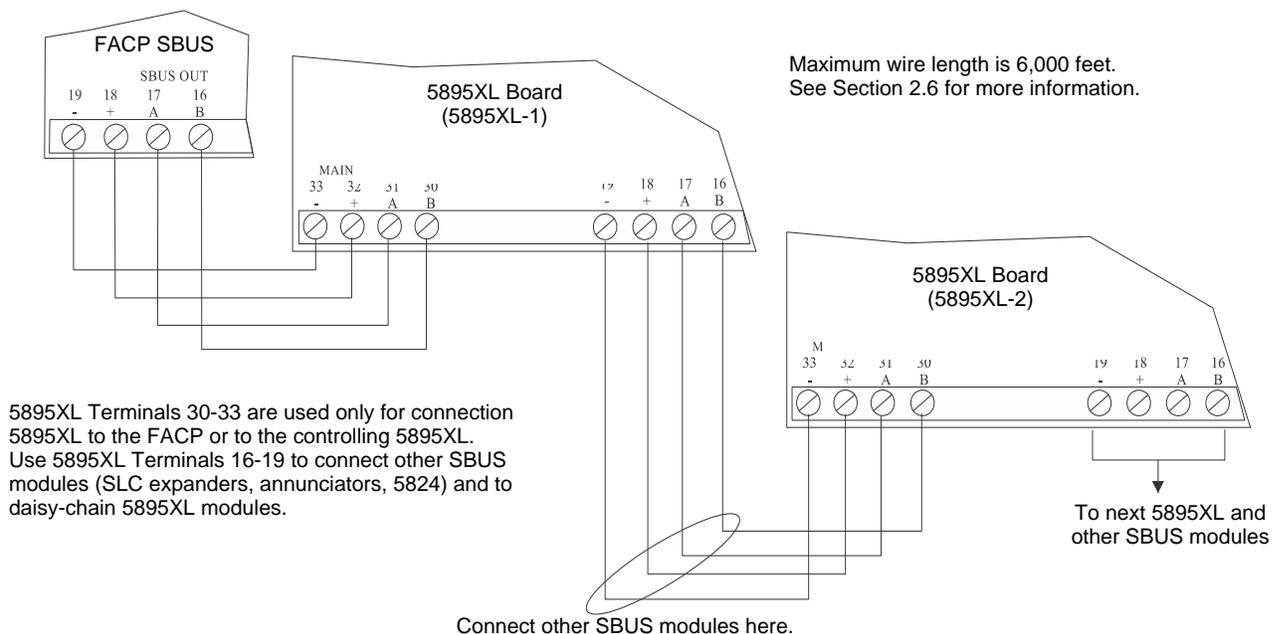

Figure 3.5 Class B 5895XL Connection to FACP
1. Connect the 5895XL to the appropriate SBUS. The 5895XL can be connected directly to the FACP or it can be daisy-chained to another 5895XL. Refer to Figures 3.5 and 3.6.